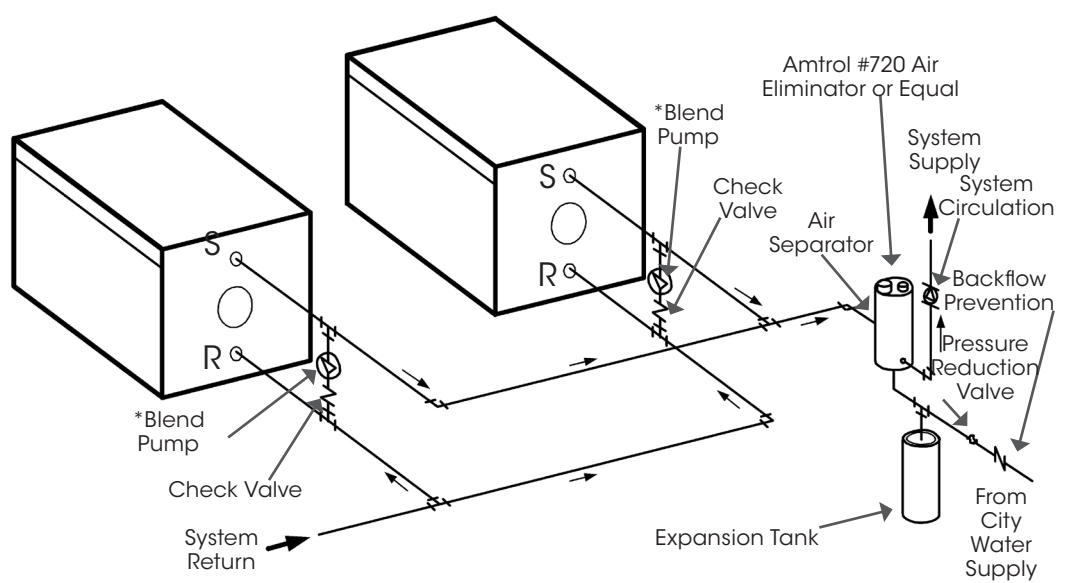

Figure 28
11. Multiple boiler piping, reverse return flow with blend pump: See Figure 28.